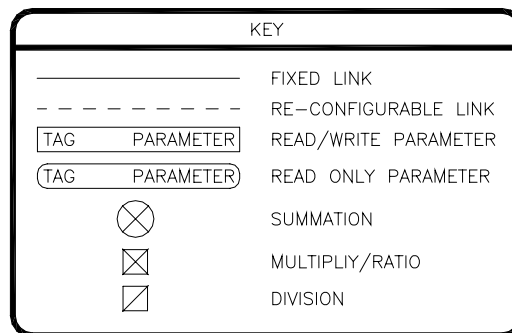

Figure 15: Block Diagram Key
The MicroManager's parameters are grouped into numerous functional blocks. The blocks can be interconnected via links in different configurations to perform different application tasks. Please refer to drawing D13539 Sheet 1 on page 90 for an overall view of all the blocks. Each parameter has a descriptive name and a tag (or number) identifier. The following sections contain each software block diagram and descriptions of each parameter function. Refer to Figure 15 below for key conventions that are used in the block diagrams. Each parameter is one of three types: Read-Only (RO), Inhibit Change while Running (ICR), or Read-Write (RW). ICR parameters can be changed only when the unit is not in the Run mode. Remember that parameter changes must be saved by setting P1 to 1.